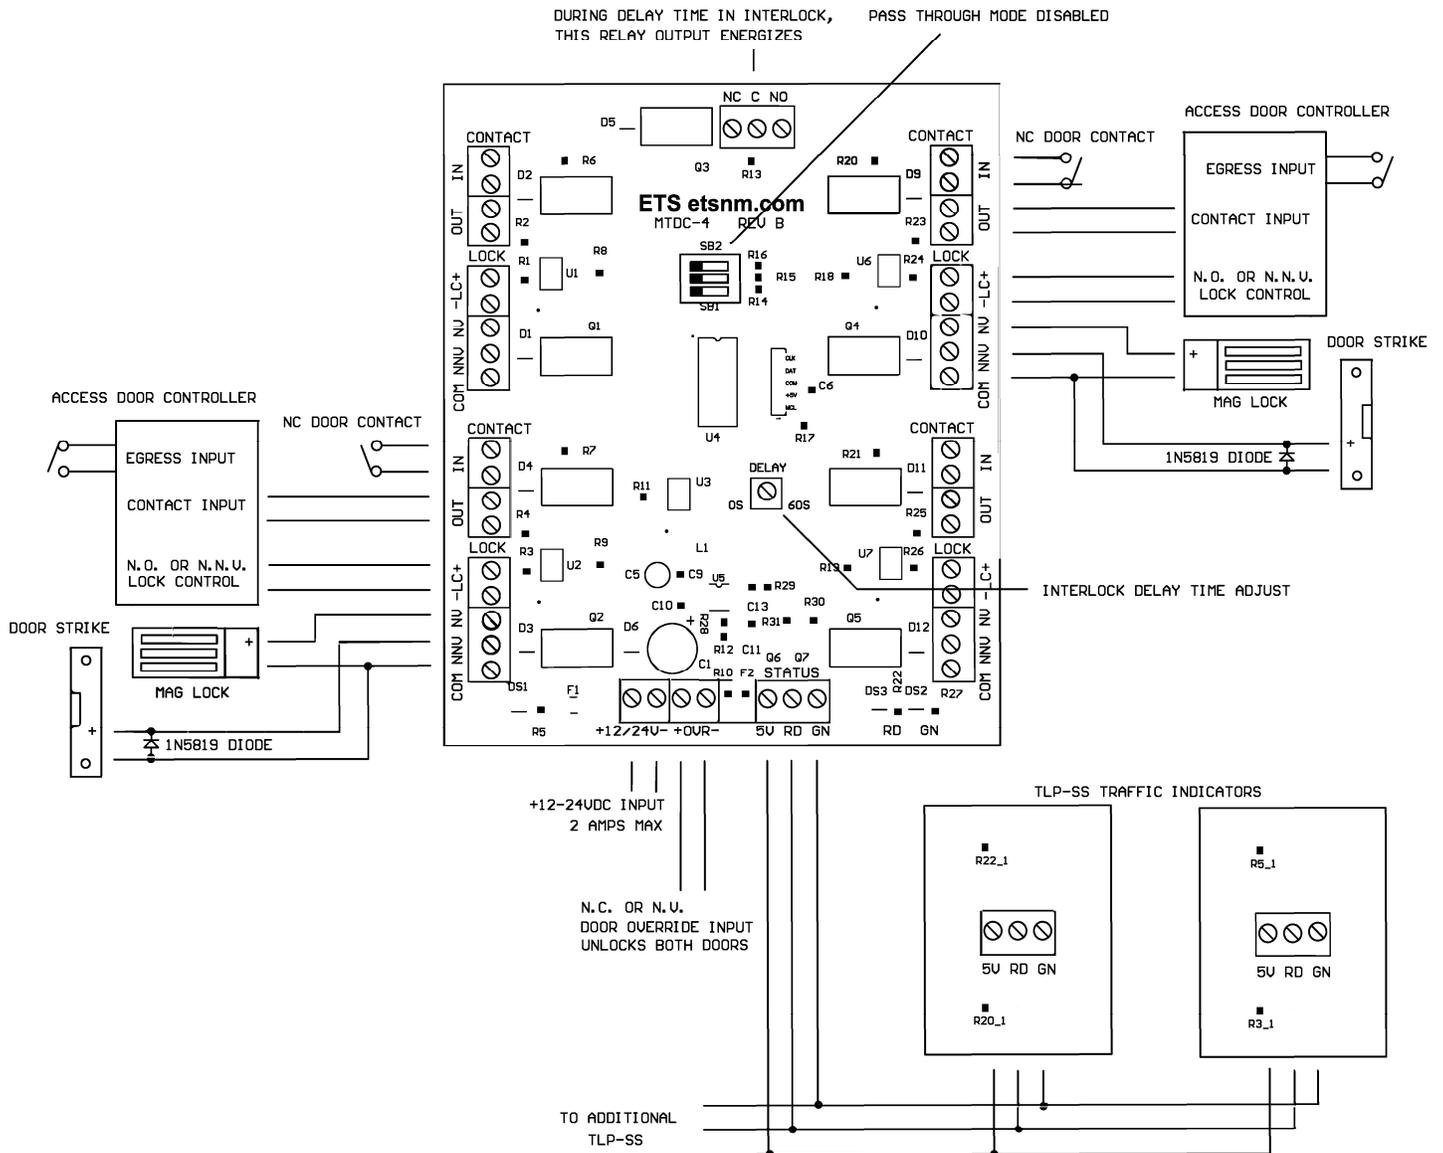
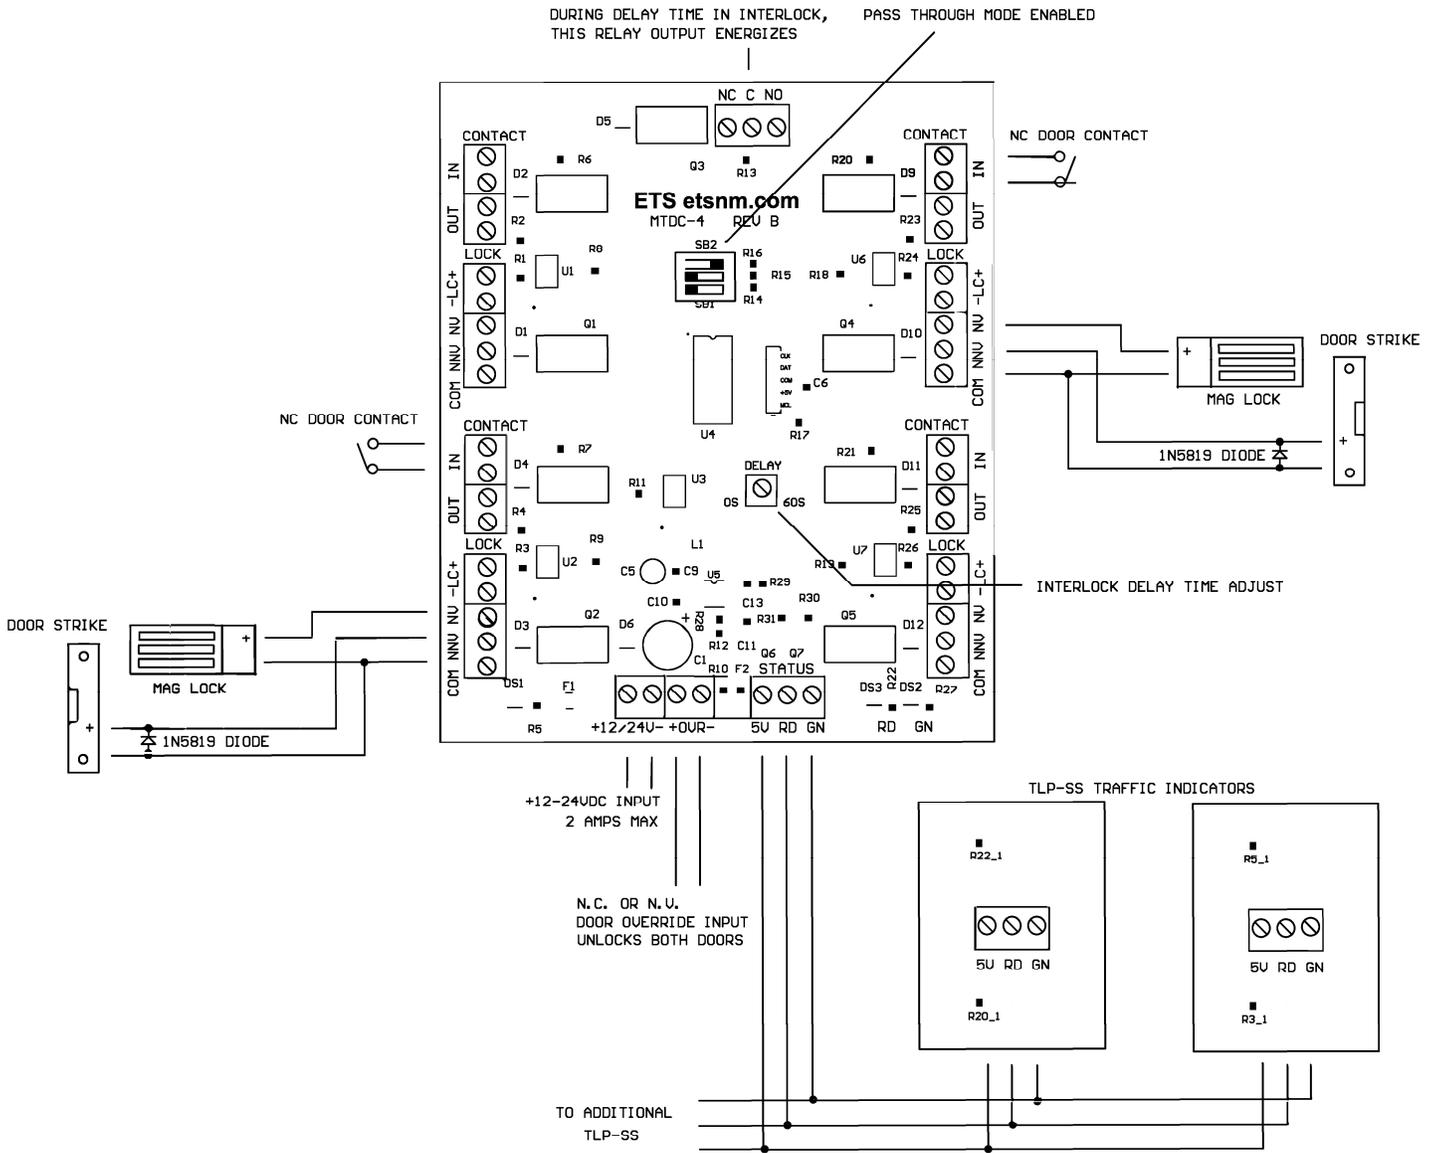

Figure 1 Access control mode.
Figure 2 Pass through mode
The MTDC-2 accepts 12-24Vdc at 3 amps maximum. The input power is also routed to the lock control outputs. The lock control outputs are auto-reset fused in the event a lock fails-shortened. See figure 1.
The MTDC-4 OVR input accepts a 5-24vdc isolated input Voltage or a NC dry relay contact input. The factory default is for a NC input. See Figure 2 for jumper settings to set the board to accept a Voltage input. This input overrides all interlock functions and opens all 4 doors immediately. If traffic lights are connected to the MTDC-4, the red and green LEDs will flash back and forth at .5 Hz. Once the override is removed the system resumes normal operation. See figure 1.
The MTDC-4 allows the connection of up to 8 TLP-SS traffic light indicators to prompt persons using the interlock system for "GO" and "STOP" situations. Below is a table of the various LED indications. See figure 1.
This output changes state when the interlock timer is activated and the contacts are rated for 2 Amps. If the interlock timer delay control is set to 0, this output does not activate. See figure 1.
This control allows for a delay between when the first door opens and when any of the doors are permitted to be opened. During the adjustable delay of 0-60 seconds, The NC C NO output will change state. This output can be used to trigger decontamination fans or other equipment. If the delay time is set to 0, the delay timer does not function. During the interlock time interval, the red LED output will flash at a rate of 1/2Hz. See figure 1.
A NC (normally closed) door contact must be connected to these inputs for both doors in order for the MTDC-2 to function. See figure 1.
This is a normally closed isolated output that follows the state of the door contact input (IN). It is provided to report door status to the connected access control reader to indicate forced door, door propped or auto-lock on door opened conditions. See figure 1.
The locks are connected directly to these outputs. These outputs can supply up to 1 Amp at 12-24Vdc. NNV stands for Normally No Voltage and NV stands for Normally Voltage. See figure 1.
NOTE- Be sure to install transient protection diodes (such as type 1N5819) when using door strikes. Maglocks can be directly connected to the board. See figure 1.
Set switch 1 to ON position to select this mode. In pass through mode, all 4 doors always remain unlocked and the traffic light is green when both doors are closed. When door 1 contact opens, doors 2,3,4 lock and the traffic light turns red. When all 4 doors are closed again, all 4 doors unlock and the traffic light is green. When door 2 is open, doors 1,3,4 lock and the traffic lights behave as previously described. The same thing happens for doors 3 and 4...all other doors lock if they are opened first. The Lock control inputs do not function in this mode. If the override input is energized, all 4 doors remain open as long as the override input is active. If set to above 0, all four doors lock during a timer duration. See figure 2.